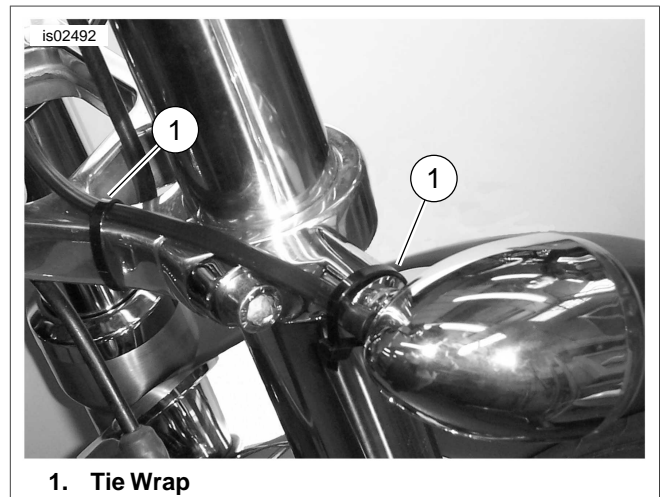
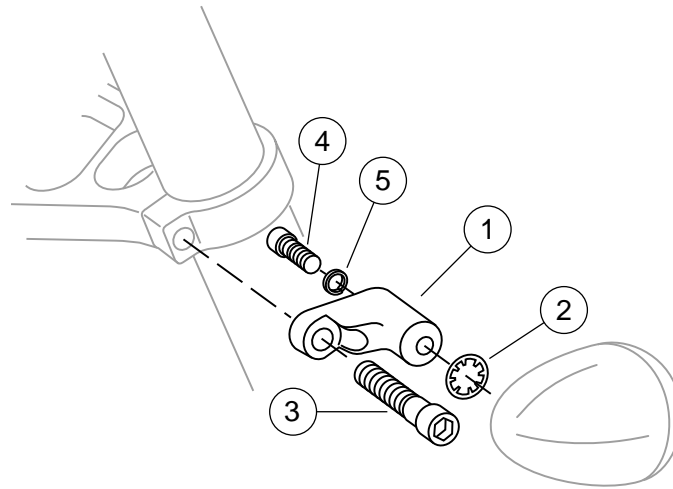

Figure 6. Secure Wiring
Figure 10. Service Parts: VRSC Turn Signal Relocation Kit
See Figure 10 and Table 1.
- d. See Figure 10. Obtain acorn nut (6) from kit. Use lock washer saved in Step b, and install acorn nut to secure mirror. Tighten securely.
- a. See Figure 10. Assemble the toothed lock washer (2), relocation stalk (1), lock washer (5) and small cap screw (4) as shown.
- b. Remove the pinch bolt attached to the back side of the triple clamp. Replace it with the turn signal assembly and larger cap screw (3). Tighten only enough to hold in place.
- d. Torque cap screw (3) to 41-47 Nm (31-34 ft-lbs).
- e. See Figure 6. Use tie wraps to secure the turn signal wiring to the stalk and triple clamp.